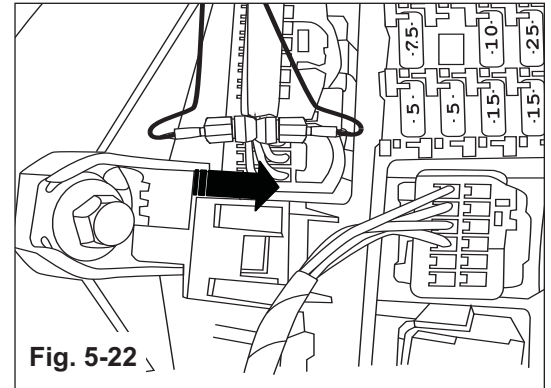

Fig. 5-22
- a) Insert male spade terminal of **Solid Black** wire into opening of wire tap on the **Orange / Blue-Striped** wire. (Fig. 5-22)